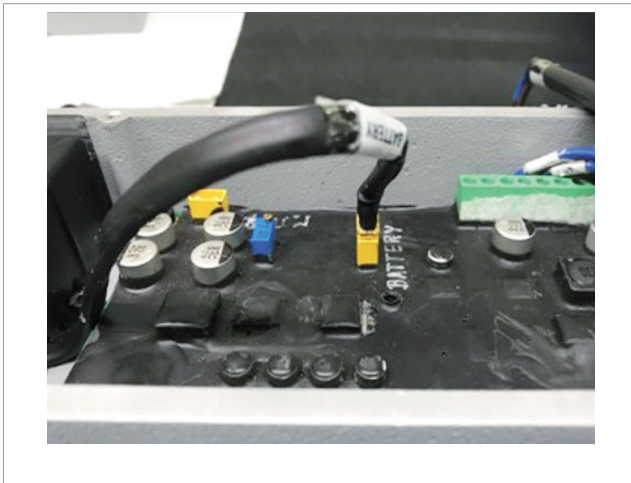

Fig. 40
- 3) Disconnect the battery wire from the PCB (see Fig. 40)